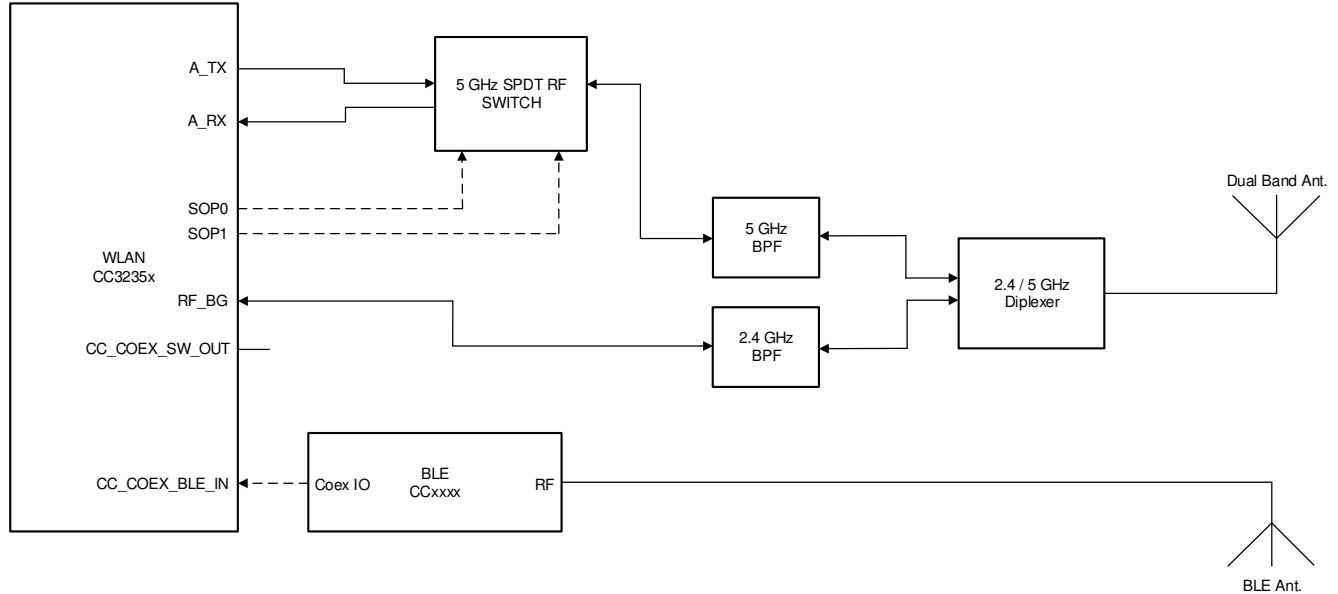

图 10-4. Dual Antenna Coexistence Solution with 5 GHz Wi-Fi
- 5 GHz Wi-Fi band (see 图 10-4)
图 10-4 shows the dual antenna implementation of a complete Bluetooth® low energy and WLAN coexistence network with the WLAN operating on either a 2.4- or a 5 GHz band. In this case the 2.4 GHz and 5 GHz Wi-Fi share an antenna and the BLE has it's own dedicated antenna. The SOP lines control the 5 GHz switch. Note in this implementation no Coex switch is required and only a single GPIO from the BLE device to the CC3235x device is required.